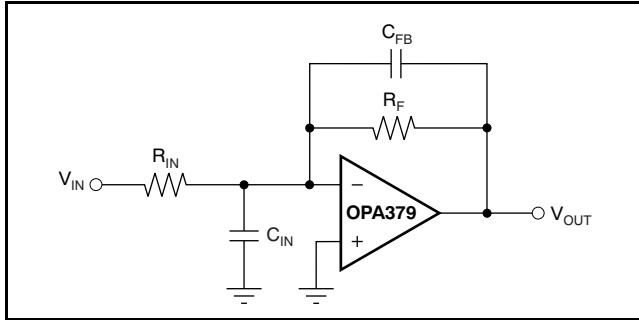

Figure 22. Improving Stability for Large R_F and R_{IN}
In unity-gain inverter configuration, phase margin can be reduced by the reaction between the capacitance at the op amp input and the gain setting resistors. Best performance is achieved by using smaller valued resistors. However, when large valued resistors cannot be avoided, a small (4pF to 6pF) capacitor, C_{FB} , can be inserted in the feedback, as shown in Figure 22. This configuration significantly reduces overshoot by compensating the effect of capacitance, C_{IN} , which includes the amplifier input capacitance (3pf) and printed circuit board (PC) parasitic capacitance.